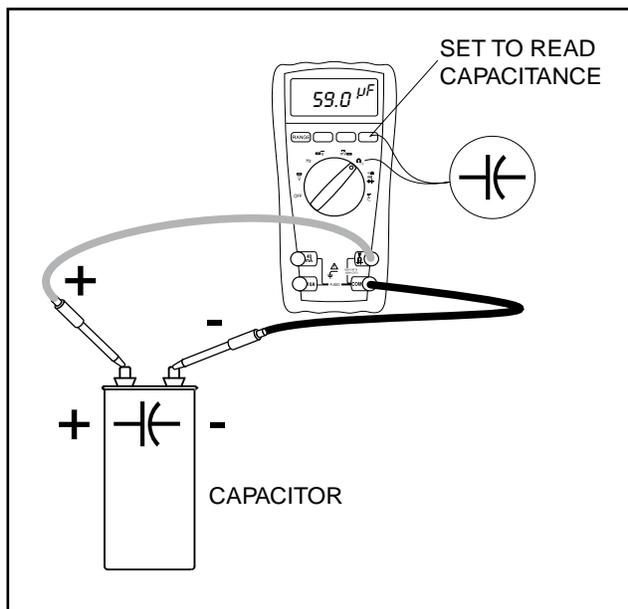

Figure 7. Field Boost Test Points
1. Consult the owner's manual of the meter being used for directions on measuring capacitance. Figure 7 shows a typical meter and how to check capacitance.